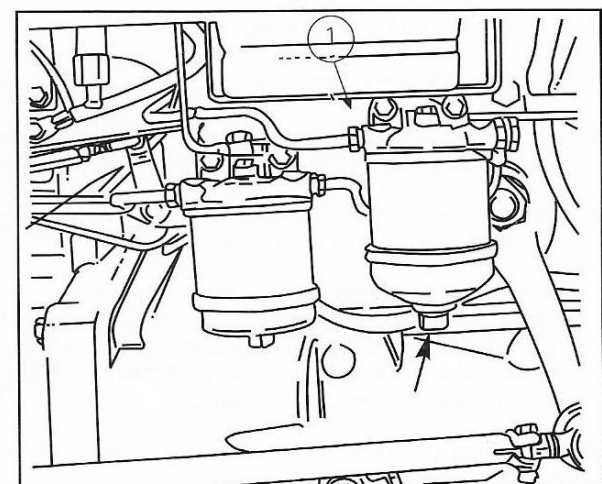

Fig. 78
1. Slacken the outlet union (1, Fig. 78) on the fuel filter, primary if two are fitted.